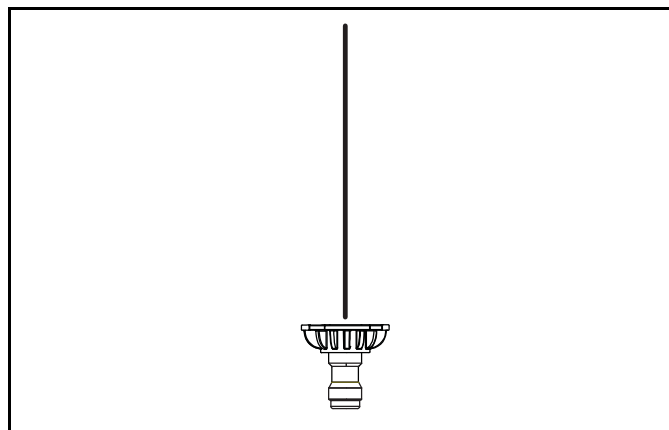

Figure 4-20. Blast Pressure Nozzle (Red)
3. To remove persistent stains on concrete or masonry surfaces, use the red blast nozzle within the stained area (Figure 4-20).